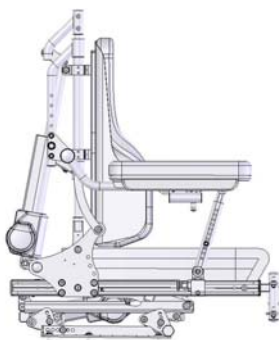

Figure 5-64
5.3.4.2.13 Flip-Back reclining armrest is shown as Figure 5-64